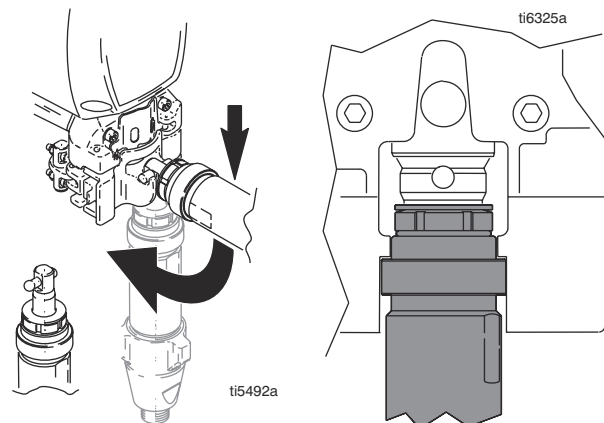

FIG. 24
1. FIG. 24. Adjust piston rod with pin holder to pull out piston rod. Tap piston rod on hard surface to push in piston rod.